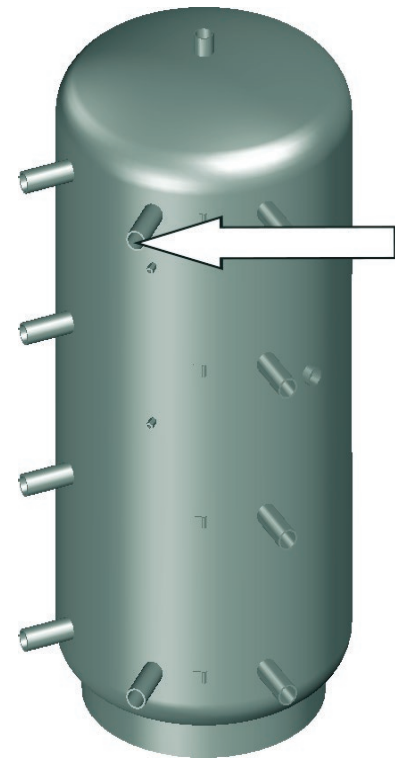
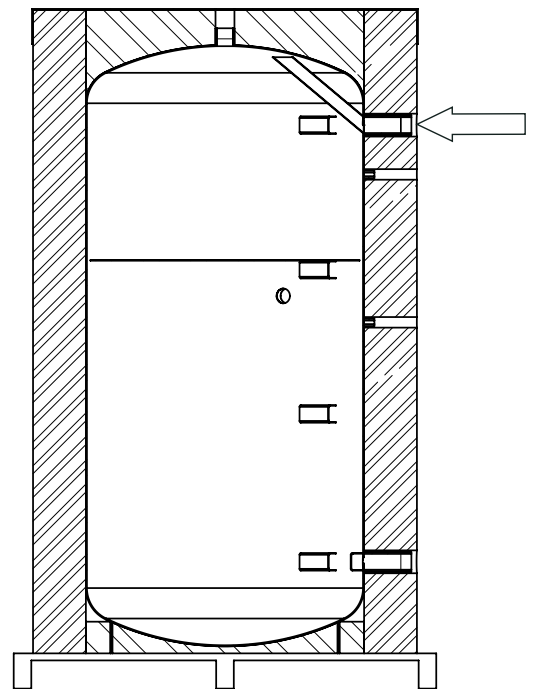

Fig. 17: Connection of the storage cylinder circuit supply to the buffer storage cylinder
Fig. 18: Internal design of the buffer storage cylinder
- When operating the fresh water station with Oventrop buffer storage cylinders of the "Hydrocor HP" series, connect the "storage cylinder circuit supply" to the connection pipe marked with an arrow in Fig. 17 and Fig. 18.